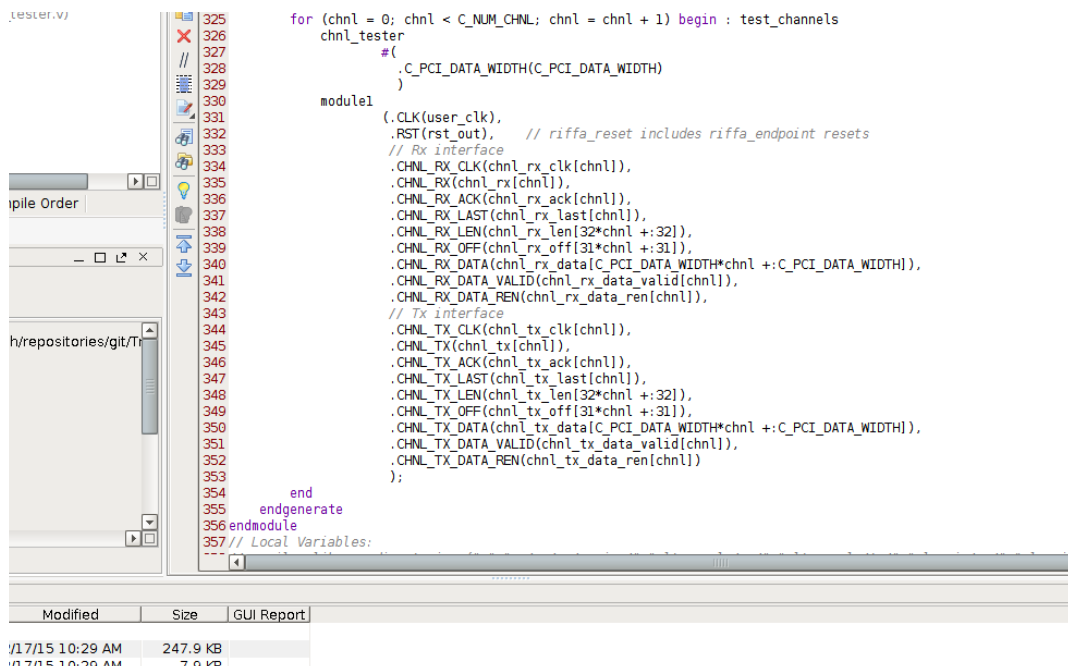

Figure 4.3: Project Splash Screen for 7Series Integrated Block for PCI Express Projects
6. The example design uses the `chnl_tester` (shown in Figure 4.3, which works with the example software in the `source/{C-C++,Java,python,matlab}` directories. Replace the `chnl_tester` instantiation with any user logic, matching the RIFFA interface.
6. The example design uses the *chnl\_tester* (shown in Figure 4.3, which works with the example software in the *source/{C-C++,Java,python,matlab}* directories. Replace the *chnl\_tester* instantiation with any user logic, matching the RIFFA interface.